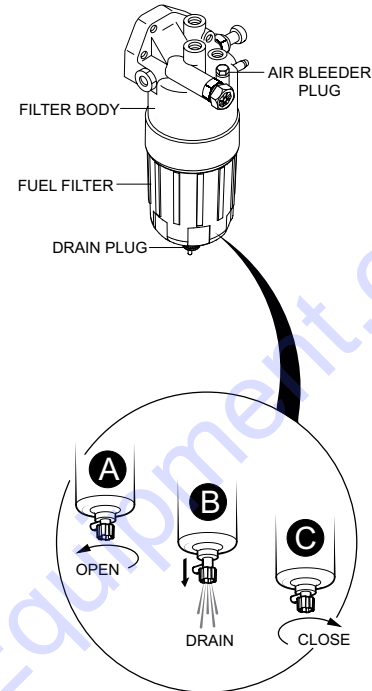

Figure 62. Draining Fuel Filter
Inspect the fuel filter **daily**. If the fuel filter (Figure 62) has collected a significant amount of water and sediment at the bottom of the cup, it should be drained off immediately.
1. Loosen the air bleeder plug (Figure 62) on the fuel filter body.